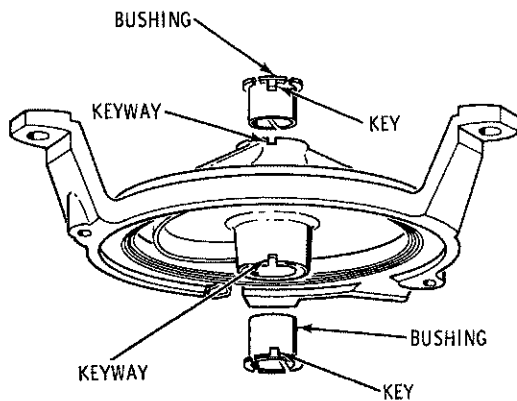

Figure VII-10
- When replacing starter base bushings on Model 1-41 and 1-51 engines, the new non-metallic bushings have keys to keep them from turning in the bore of the base, and thus reduce wear. The old base may not have keyways to receive the bushing keys, so unless the base is also replaced, it will be necessary to make an alteration to either the bushings or the base. It is preferred that keyways be cut in the base and this can be done easily in this way: Using a hacksaw and a flat file, notch a keyway wide and deep enough to accept the bushing keys, one on each end of the starter bore. (Figure VII-10)